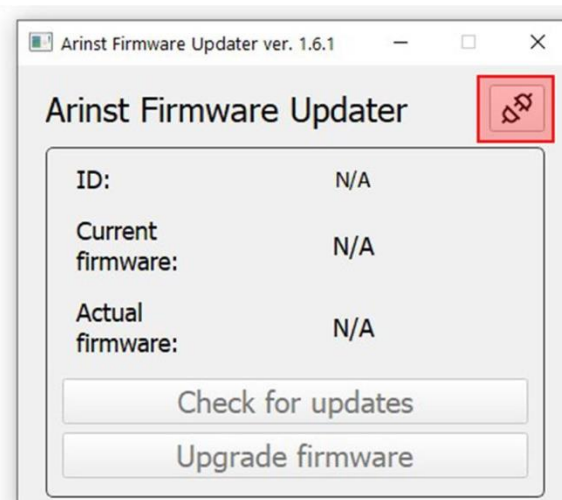

Figure A2.1 - Connecting the device to PC
2.3. Click the button ⁹ to connect the device to your PC (Figure A2.1).